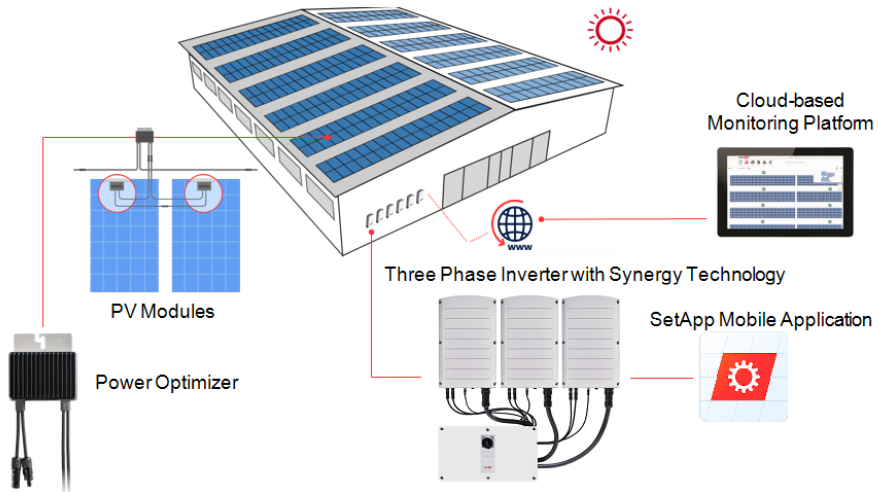

Figure 1: The SolarEdge power harvesting system components
The SolarEdge power harvesting solution is designed to maximize the power output from any type of solar Photovoltaic (PV) installation while reducing the average cost per Watt. *Figure 1* shows and the following sections describe the components of the SolarEdge power harvesting system.